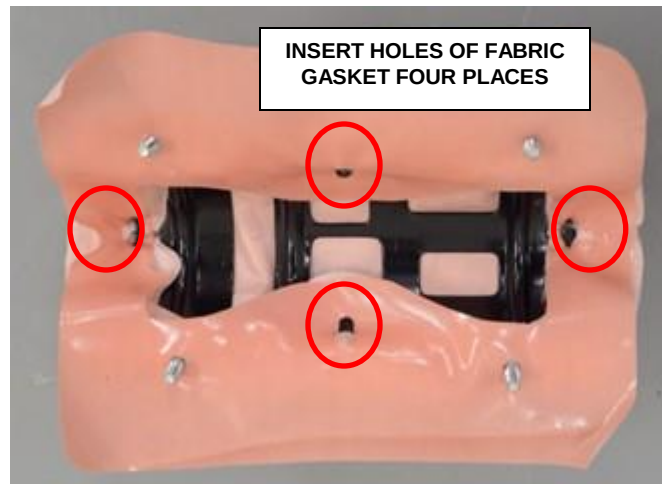

Figure 64 – Fabric Gasket
- i. With the help of a trim tool insert the holes of fabric gasket, four places (Figure 64).